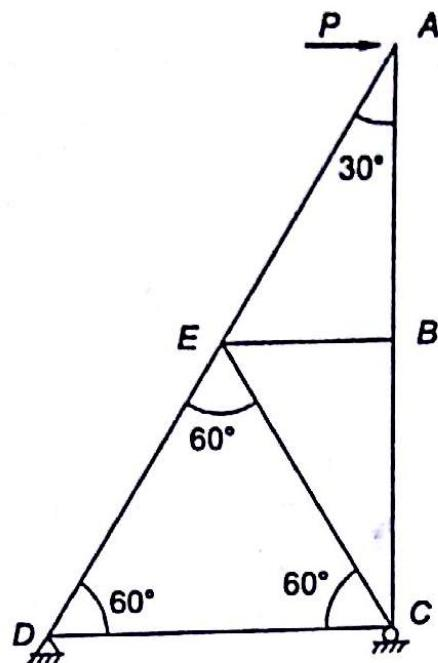

Fig. 4.42
- 4.13** A truss $ABCDE$ is shown in Fig. 4.42. Truss is hinged at D and roller supported at C . How many zero force members are there in truss?